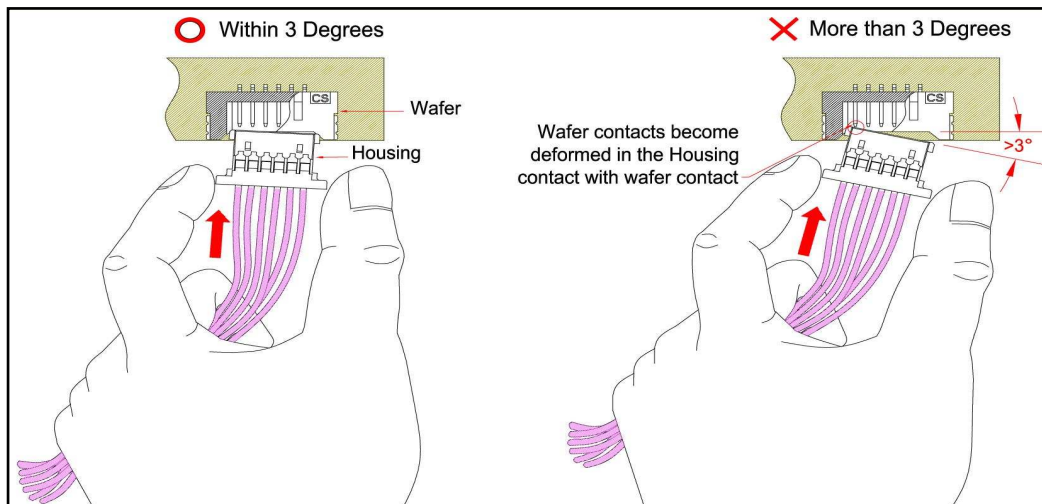

figure 3.2
- ※ It causes deformation due to the housing come into contact with the base contact when the housing inserted into the wafer with leaning. Housing shall be mated without twist or wrench. In case twist or wrench should occur, it should be within 3 deg. (see figure 3.2)